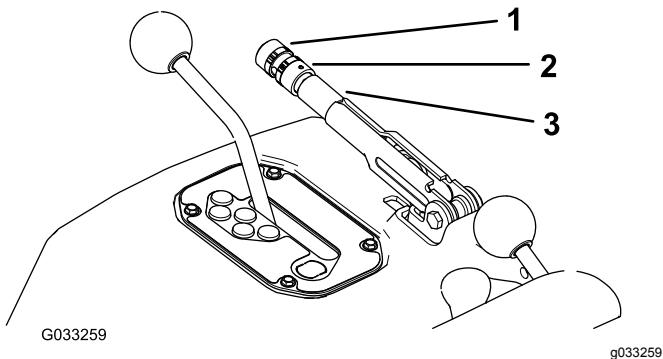

Figure 75
2. Loosen the set screw securing the knob to the parking-brake lever (Figure 75).
3. Rotate the knob (Figure 75) until a force of 20 to 22 kg (45 to 50 lb) is required to actuate the lever.
4. Tighten the set screw when finished (Figure 75).